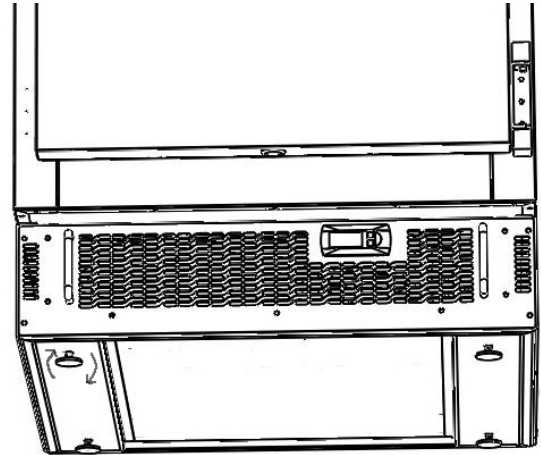

Figure 4.1
2. Tilt the **VersaFridge** unit back or to the side and screw the 4 ea legs into the 4 ea appropriate holes on the base of the cabinet. The legs should extend approximately 1/8" (3.2mm) to 1/4" (6.4mm) below the base of the unit. (See Figure 4.1)